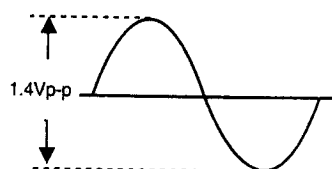

Figure 11 6.0MHz ADJUSTMENT
C) Adjust the Sound 6.0MHz. (Refer to Fig.11)